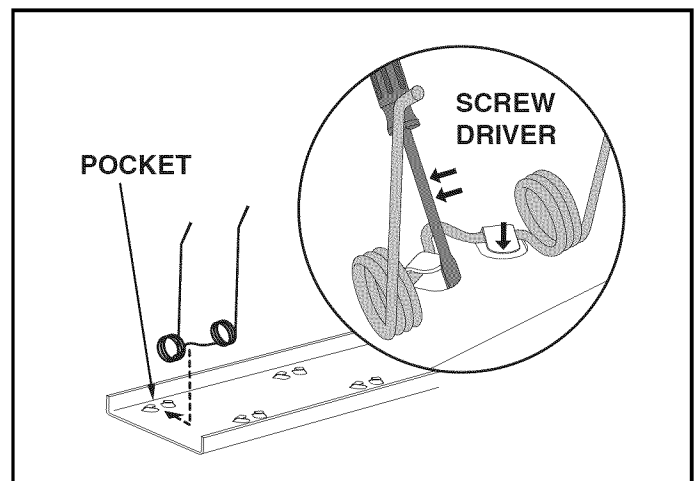

FIGURE 21
- Slide a new spring tine under the locking tabs. Insert a screw driver and bend down the locking tabs until the ends of the tabs are bent down even with the surface of the tray. See figure 21.